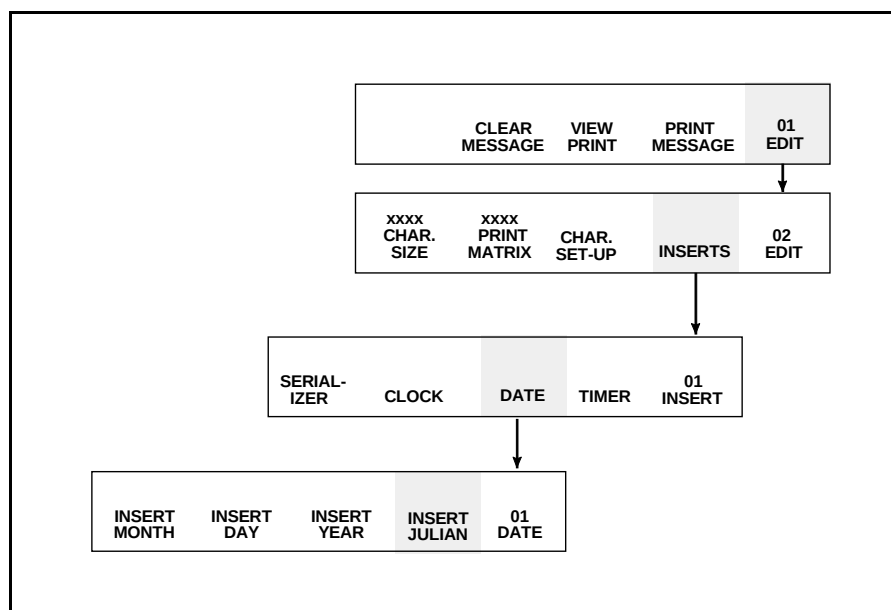

Figure 6-28. Accessing Frame <01 DATE>
1. Begin in Frame <01 DATE>. Refer to Figure 6-28.